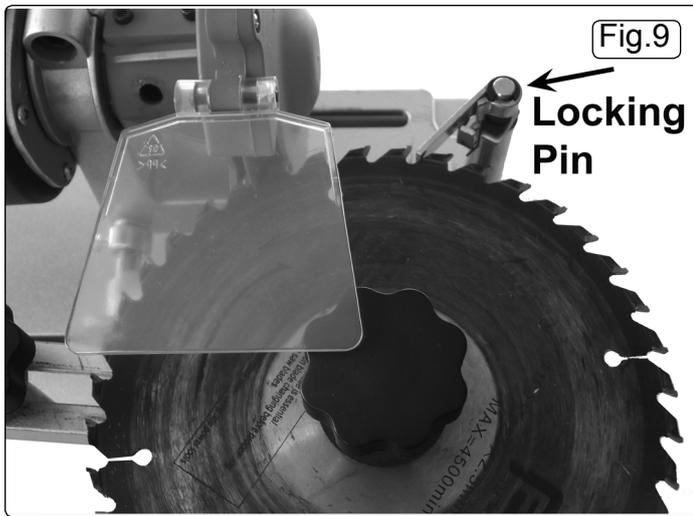

Fig.9
- 4.9.1. After all the adjustments have been completed, position the locking pin in such a way, that it will put slight pressure on the saw blade. (See fig.9).